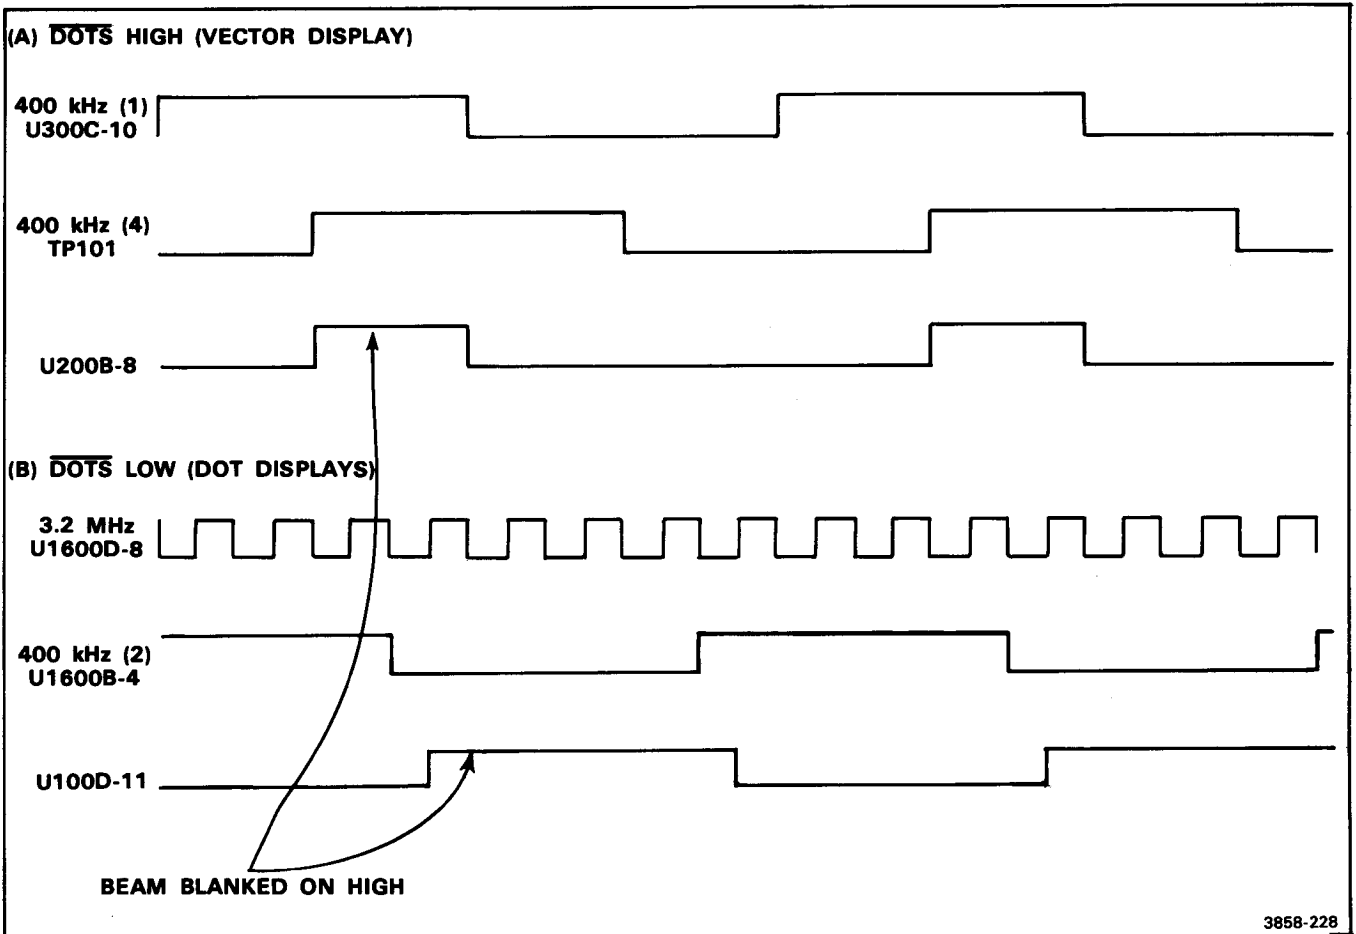

Figure 2-13. Crt Beam Blanking Timing: (A) Vector Mode; (B) Dots Mode.
During a display cycle, flip-flops U200B and U1500A control the blanking of the display. When the DOTS line is low (dots mode), the high at pin 12 of U1600F holds the Q output of U200B high. U1500A then controls the blanking of the crt beam (see Fig. 2-13). The output of U1500A at pin 6 is essentially the 400kHz(2) signal,